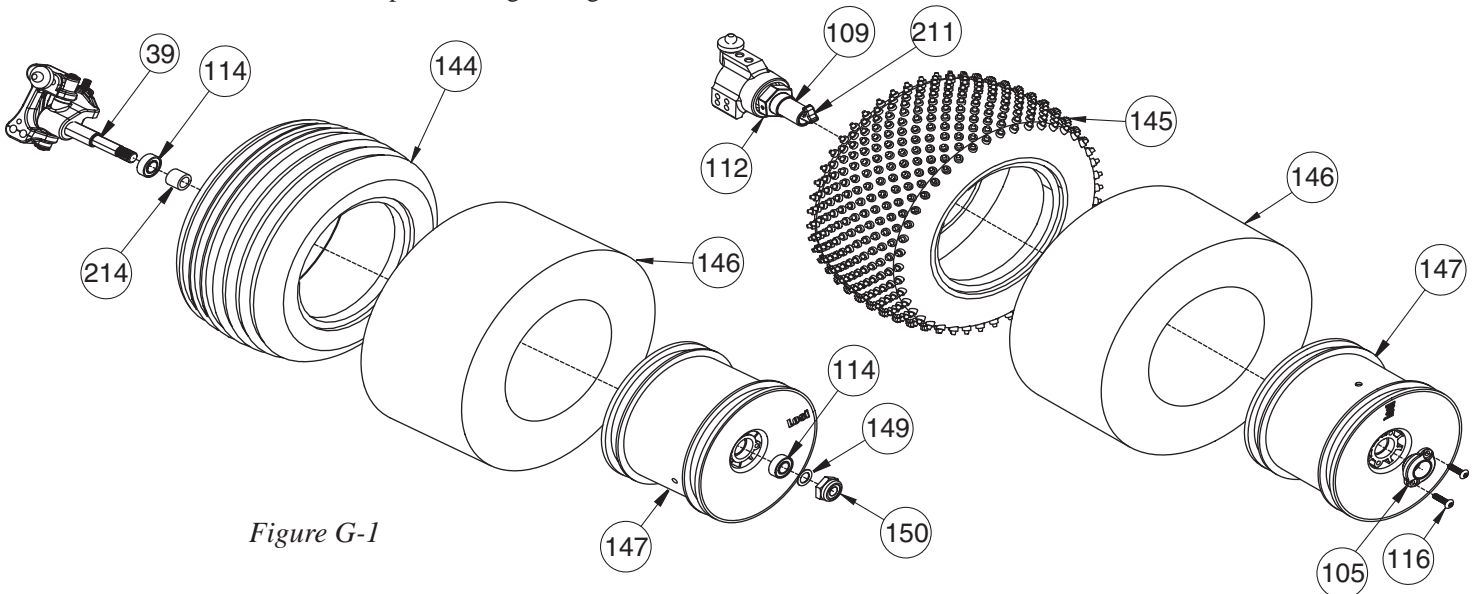

Figure G-1
- 5. Install a Wheel Bushing (105) into each of the rear Wheels, align the holes in the bushing with the corresponding holes in the Wheel. Secure the Wheel Bushing by threading in two 2-56 x 1/4" Button-Head Screws (116) into each of the screw holes and tighten.
- 6. Install a 3/16" x 3/8" Bearing (114) into the backside of the front Wheel (Teflon seal facing out). Insert a Bearing Spacer (115) into the Wheel from the front side. Capture the Spacer with a second Bearing (Teflon seal facing out as well).
- 7. Install the front Wheels by sliding the front Wheel with Bearings over the front Axle (39) as shown in Figure G-1. Place a 3/16" x 0.015" Shim (149) over the Axle against the outside Bearing. Secure the Wheel by threading a 10-32 Locknut (150) onto the Axle and Tightening.
- 8. Mount the rear Wheels to the rear Axles (109) by lining up the Wheel Hex (112) with the hex in the rear Wheel and pushing the Wheel all the way onto the Axle, making sure the rear Wheels are pushed completely on and the Quick Change Lever is latched over the Wheel Bushing.